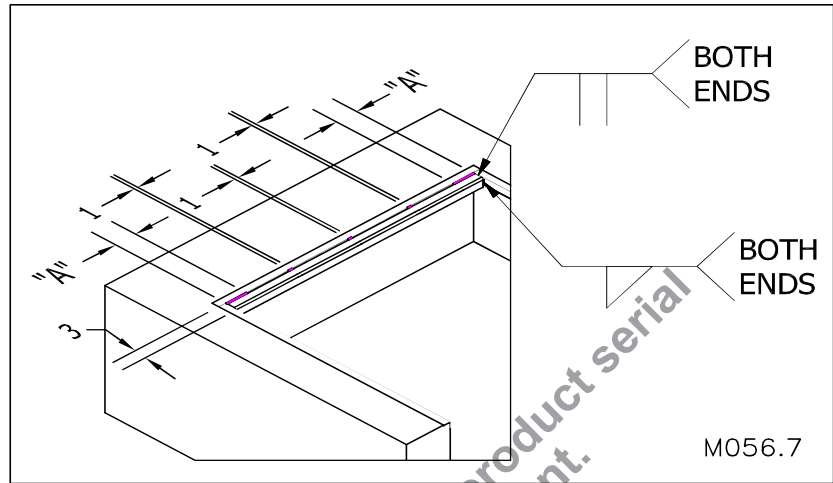

Figure 25: Welding the 3 X 3 Square Tubing to the Curb Angles
3. ☐ Weld the ends of the square tubing to the side curb angle (see "Figure 25: Welding the 3 X 3 Square Tubing to the Curb Angles" on page 23. Add vertical welds at